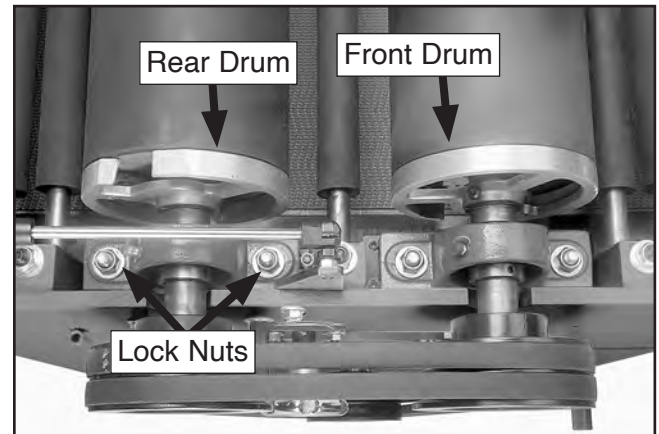

Figure 60. Location of rear drum bearing lock nuts.
5. Loosen rear drum pillow bearing lock nuts, shown in **Figure 60**.